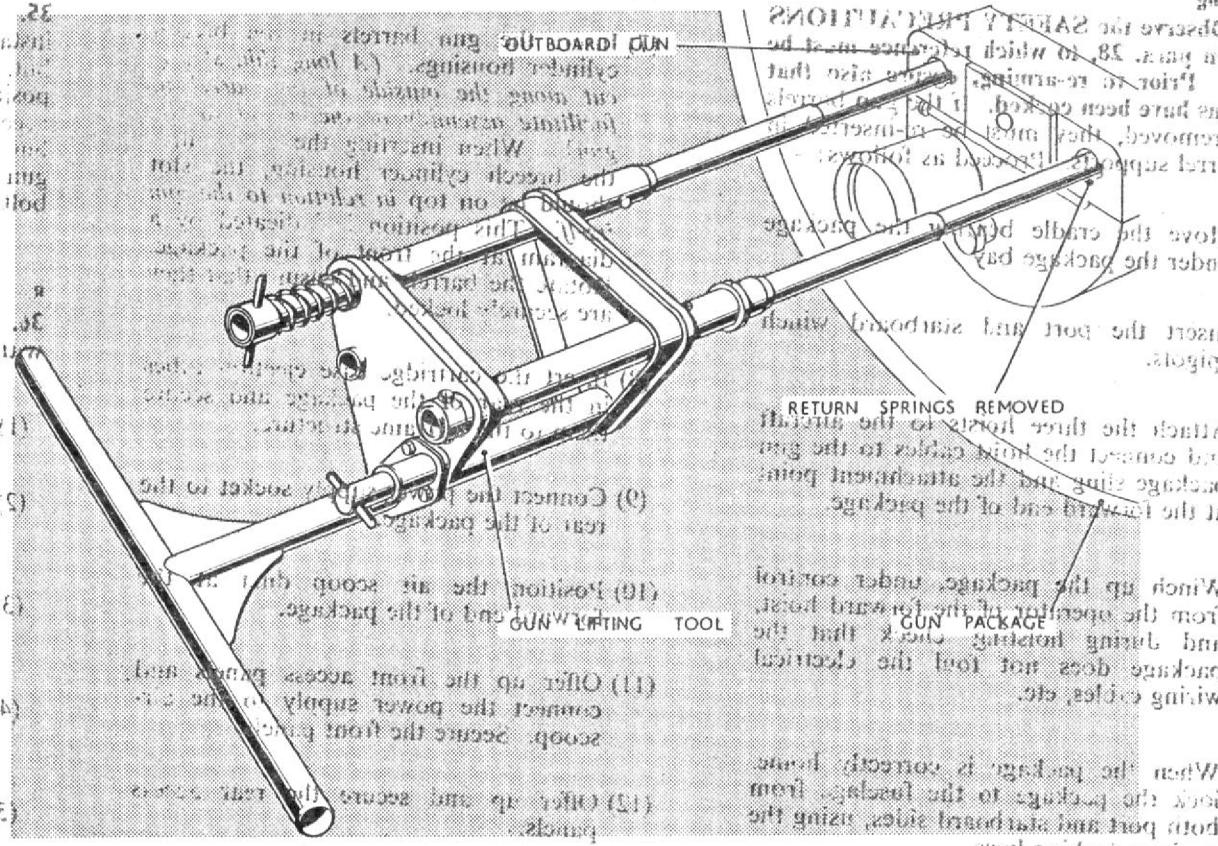

Fig. 11. Gun lifting tool
(11) Insert the gun lifting tool in the cradle (fig. 11), ensure that the handle is horizontal.
(12) Unlock and remove the rear mounting bolt. It is advisable for the weight of the gun to be taken by the gun lifting tool during this operation.
(13) Withdraw the gun from the package, taking care that the electrical supply lead and the cradle contact leads do not foul any part of the structure. Similarly, take care to avoid striking the 'gun loaded' indicator against the package ribs. The indicator is fragile and very easily damaged.
37. With the barrel fitted, the return springs removed from the rear of the gun and the gun lifting tool in position (fig. 11), proceed as follows:—